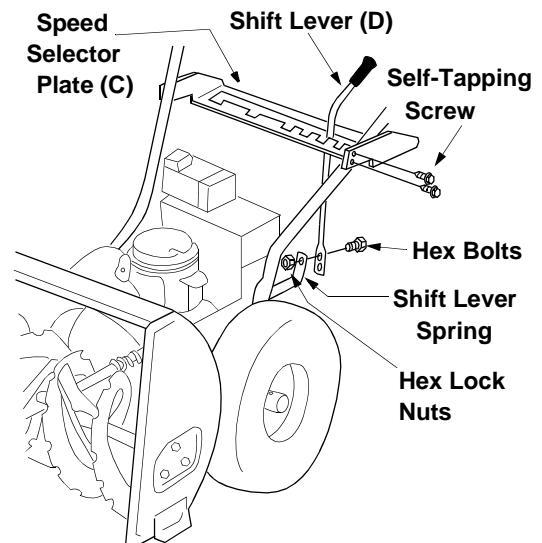

Figure 5
- Assemble the speed selector plate (C) to the **outside** of the handles as shown in Figure 5. Secure using four self-tapping screws. See Figure 5.
- Insert the shift lever (D) through slot in the speed selector plate.
**NOTE:** The bend in the lever should be towards the operator. Secure shift lever to the shift lever spring using two hex bolts and hex lock nuts. Tighten both bolts finger tight. At this point the shift lever and shift lever spring are not against each other. As you tighten the bolts and nuts with two wrenches they will pull together. See Figure 5.